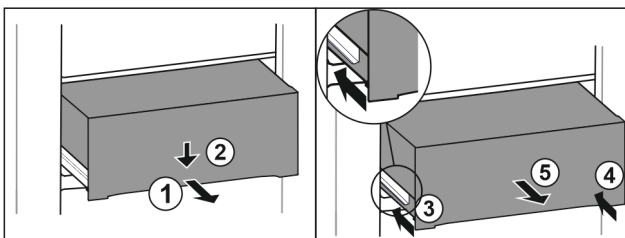

Fig. 61
- ▶ Pull out the drawer halfway. Fig. 61 (1)
- ▶ Press down the drawer on the front. Fig. 61 (2)
- ▶ Push in the left rail approximately 2 cm (13/16 in). Fig. 61 (3)
- ▶ Push in the right rail approximately 2 cm (13/16 in). Fig. 61 (4)
- ▶ Remove drawer to the front. Fig. 61 (5)